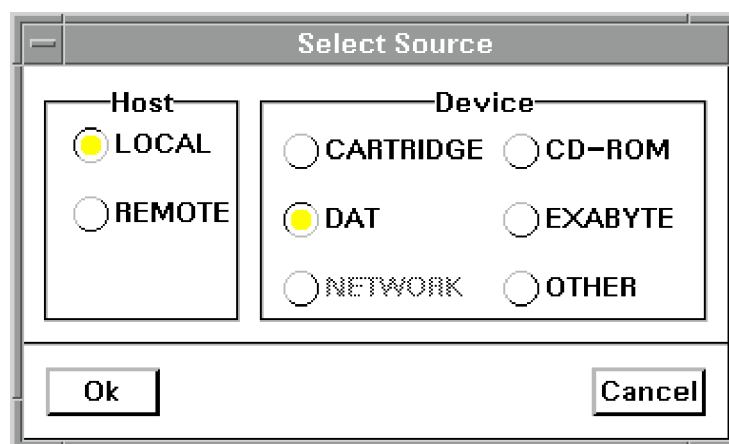

Figure 14. Select Source Window
Used to display the currently selected installation media. Click on the `Select Source` button to open the `Select Source` window (Figure 14). This window allows the user to select the installation source device. The device selection defaults to the `DAT` drive on the local machine (the `LOCAL` option in the `Host` panel and the `DAT` option in the `Device` panel).
- STEP 1: Select the installation device.** Click on the `Select Source` button in the `Source` panel to open the `Select Source` window (Figure 14). Select the device to use as the installation source device. Select `NETWORK` if you are installing a segment from the segment installation server. Refer to Section 6.3.2, *Segment Installation Server Option*, for information about loading segments on the segment installation server.
- STEP 2: Select the installation device.** Click on the Select Source button in the Source panel to open the Select Source window (Figure 14). Select the installation source device and then click on the OK button.